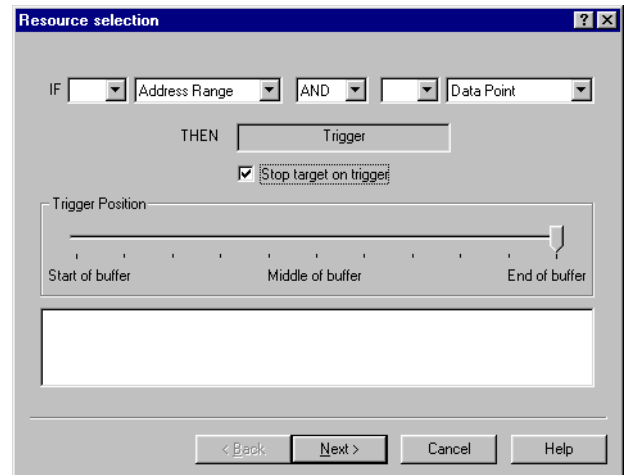

Figure 8-16 Resource selection for Trigger
1. Double-click **Trigger** in the Actions list to define a rule. The Trigger Resource selection dialog box shown in Figure 8-16 is displayed.